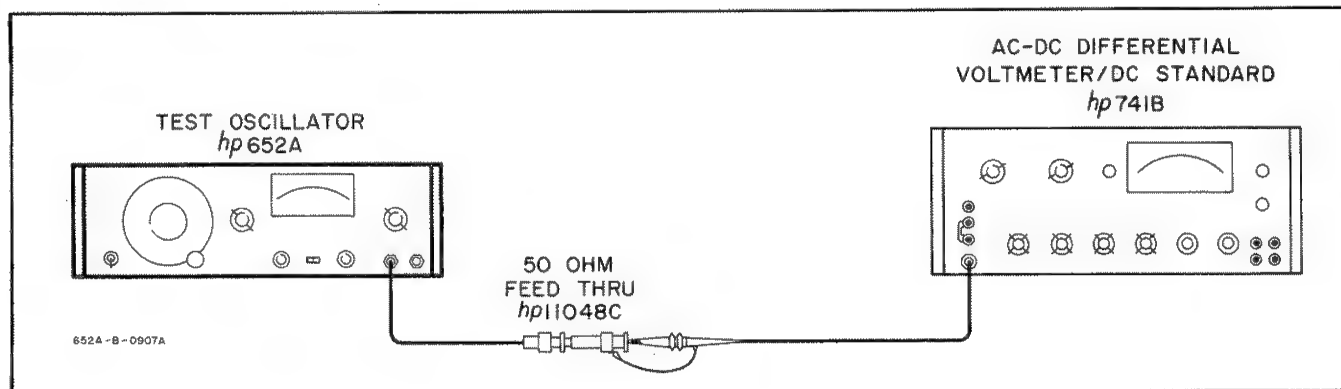

Figure 5-9. 10 kHz Monitor Calibration.
d. Connect 652A to ac differential voltmeter as shown in Figure 5-9.